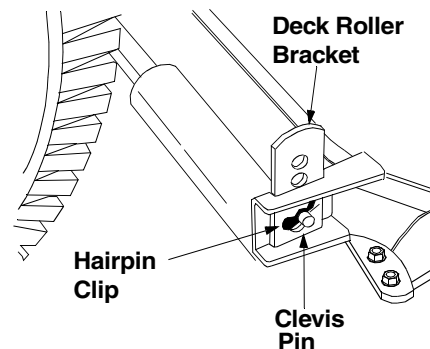

Figure 11
- Remove the clevis pins and hairpin clips from the deck roller brackets on the left and right sides of the cutting deck. See Figure 11.
- Position the deck roller brackets up or down through the slots on the rear of the deck until desired position is reached. Re-attach with clevis pins and hairpin clips just removed. See Figure 11.